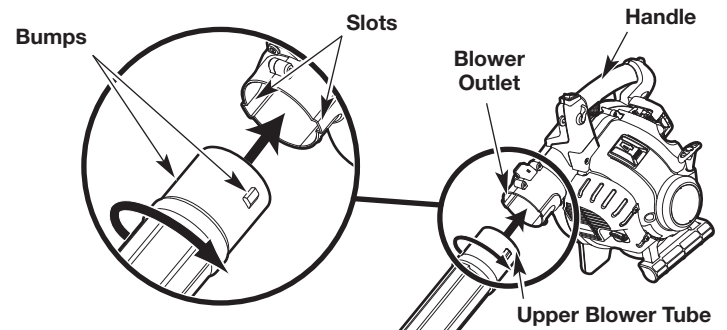

Fig. 1
1. Align the bumps on the upper end of the upper blower tube with the slots on the blower outlet (Fig. 1).
2. Insert the upper blower tube into the blower outlet (Fig. 1).
3. While holding the handle, twist the upper blower tube clockwise until it locks into place (Fig. 1).